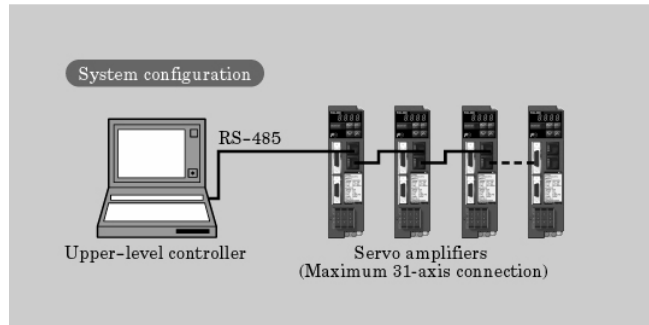

Figure 2. Daisy chain connection of the serial port
- Is equipped with one RS485 serial port with two connectors (figure 2), allowing an easy daisy chain connection (up to 31 units can be connected).